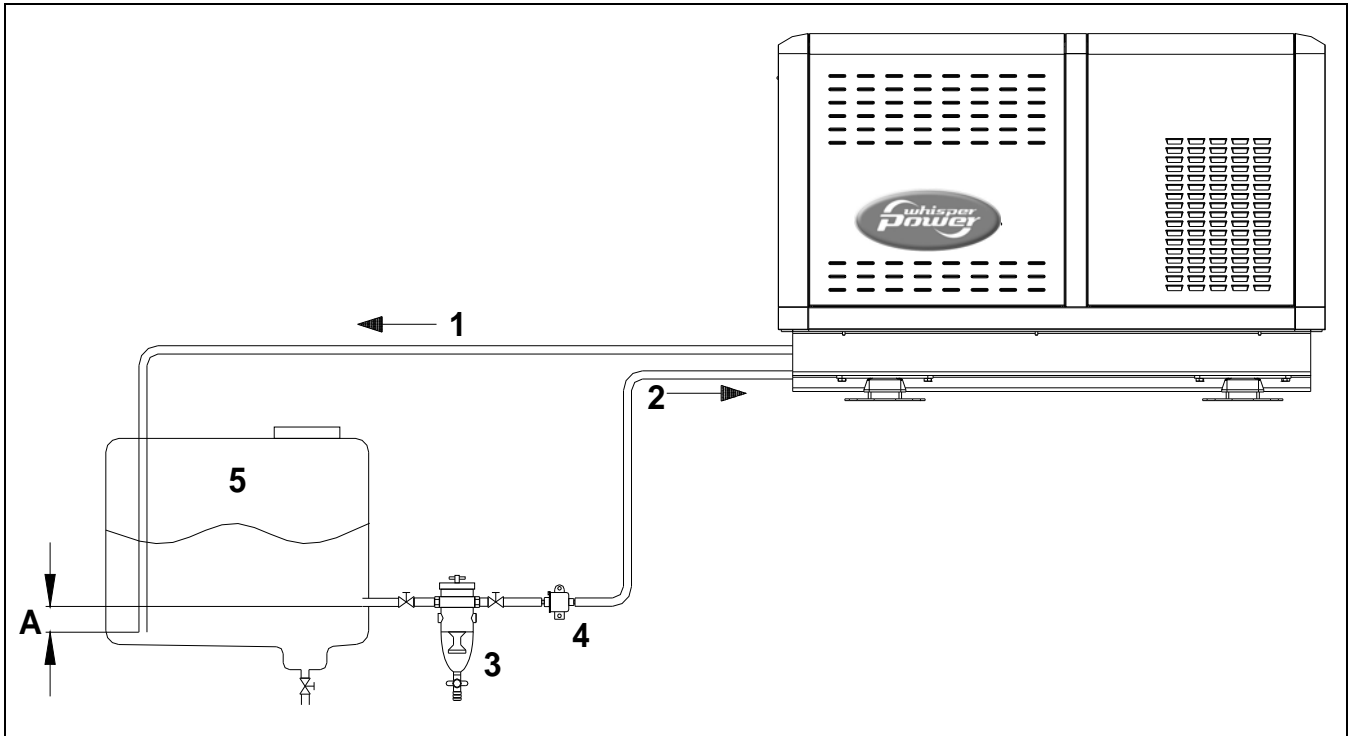

Fig. 4 Fuel supply
When the tank is below the generating set we recommend ending the return line on the bottom of the tank (A) below the inlet of the supply line (see figure 4)